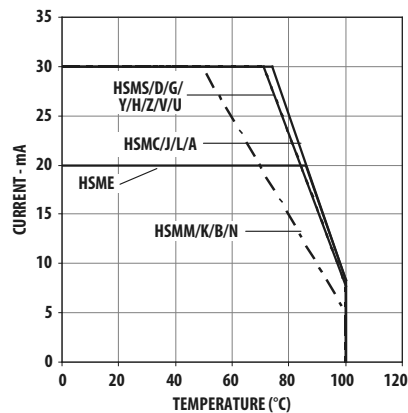

Figure 4. Maximum forward current vs. ambient temperature. Derated based on $T_{jMAX} = 110^{\circ}\text{C}$, $R\theta_{JA} = 500^{\circ}\text{C/W}$.
1. Derate linearly as shown in Figure 4.